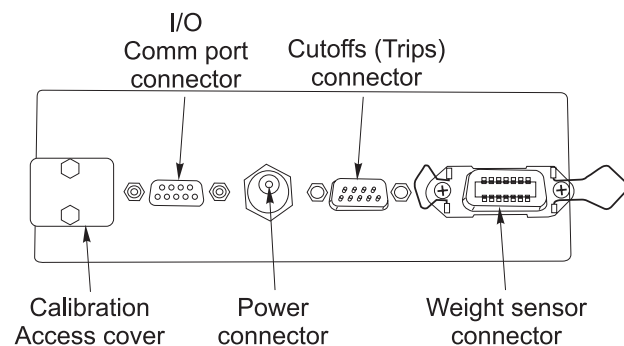

Figure 1
2. Connect all necessary cables to the appropriate connector on the back of the indicator. See Figure 1.